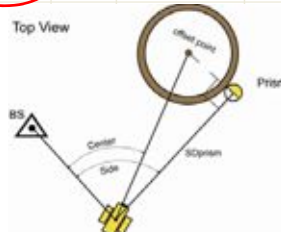

Figure A-3. Example of Horizontal Angle Offset in Total Station or TopSURV/SSF
- *Center* and *Side*: These two types of TS measurements are created if the user selected Horizontal Angle Offset in the Total Station or TopSURV/SSF software. The *Center* measurement contains only horizontal angle to the target (offset point), *Side* measurement contains: horizontal/vertical angles and distance to the prism (see Figure A-3). Both measurements (*Center* and *Side*) relate to one point. After clicking **Compute Coordinates**, Topcon Link calculates the coordinates of this point using both measurements: